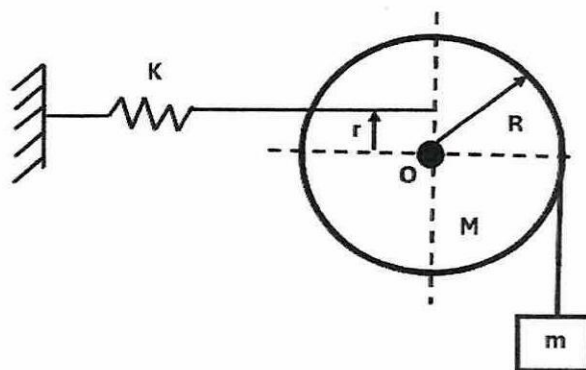

Figure Q1.2
- Q1 (b)** A mass of 2 kg is suspended by a spring passing over the pulley as shown in **Figure Q1.2**. The system is supported horizontally by a spring of stiffness of 500 N/m. Given the mass of the pulley, $M = 15$ kg, radius, $R = 100$ mm, and the existence of spring from the center of gravity, $x = 50$ mm. Calculate the natural frequency in rad/s and Hz of the vibration system by energy method. (12 marks)